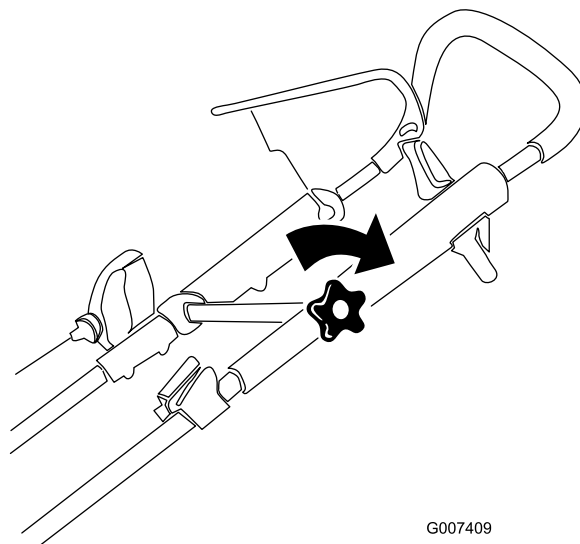

Figure 20
3. Tighten the upper-handle knob firmly (Figure 20).